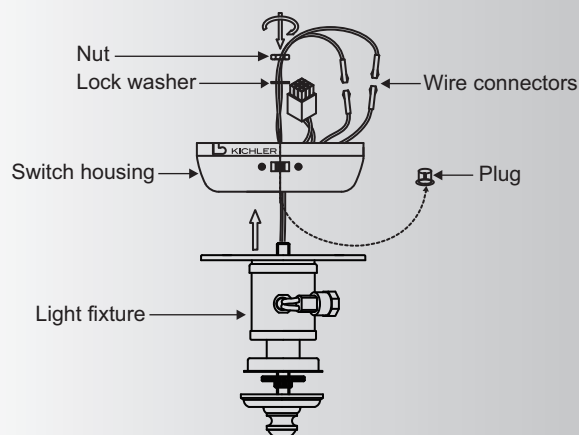

Fig. 18
Step 1. Remove the plastic plug from the center of the switch housing. Attach the light fixture to the switch housing by feeding the light fixture wires (black & white) through the hole in the center of the switch housing, then screw the light fixture stem into the center hole. On the inside of the switch housing, place a lock washer and a nut on the light fixture stem and tighten. (Fig. 18)
Attach the wires from the light fixture to the wires inside the switch housing by pushing the polarized connections together. (Fig. 18)